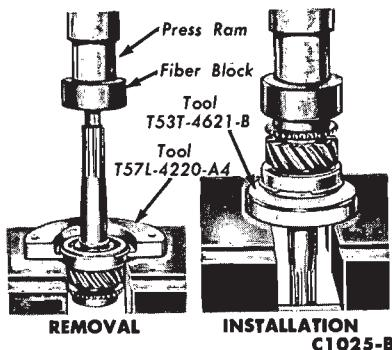

FIG. 17—Replacing Input Shaft Bearing
2. Press the input shaft bearing onto the input shaft with the tool shown in Fig. 17, and install the snap